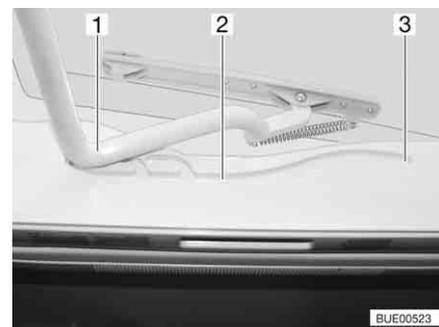

Fig. 69 Heki skylight, guide
- Pull the bar (Fig. 69,1) in the guides (Fig. 69,2) to the rearmost position (Fig. 69,3).
- Use both hands to push the bar (Fig. 69,1) slightly upwards.
- Pull the bar in the guides (Fig. 69,2) to the desired position.